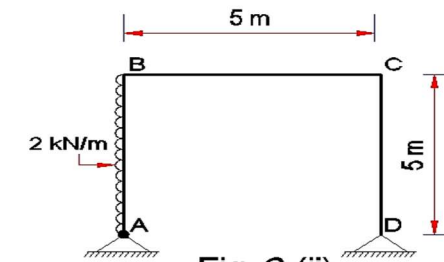

Fig. 2 (ii)
- OR iii. Solve the Continuous Beam in Fig. 2 (iii) by Kani's Method. **7**